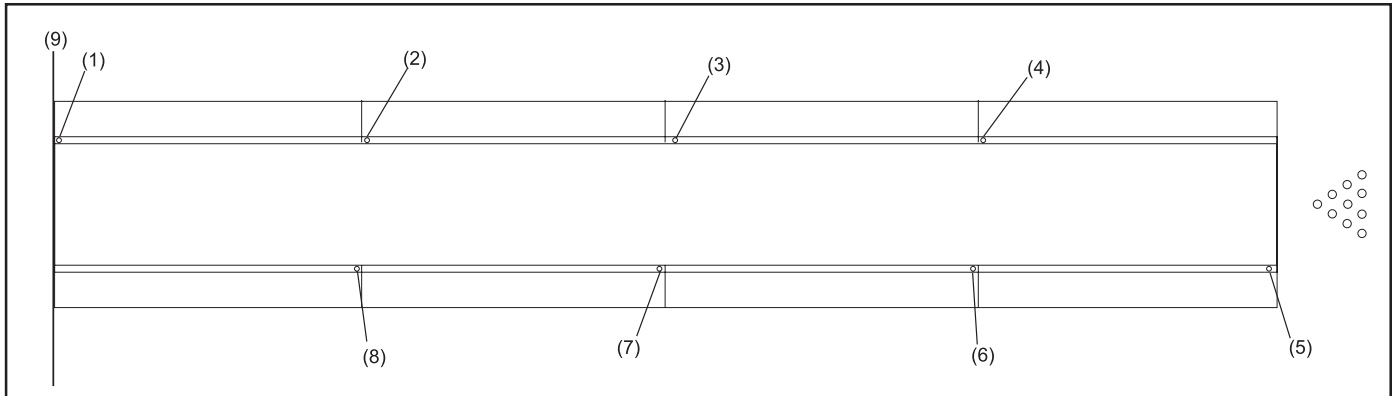

Figure 5. Gutter Location Stickers
Bankshot gutters (part numbers 84-860660-xxx left hand gutter, 84-860661-xxx right hand gutter), are manufactured with the numbers 1-8 placed on the end of them. These numbers identify the order and position of gutters regarding installation for a single lane. Refer to *Figure 5*.
As viewed from the foul line facing the pin deck, the first gutter to be installed on the left-hand side would be #1, then #2, #3 and so on. Refer to *Figure 5*.
1. Beginning with gutter #1, place the gutter section into position starting at the foul line and working toward the pin deck and repeat steps for gutter #5. Place the remaining three sections of gutter into position. The stamped number should face the foul line (gutters 1-4), or face pit end (gutters 5-8) once installed. Check for minimum distance of 1/4" (6.35 mm) from top of gutter to top of lane surface. Refer to *Figure 5*.